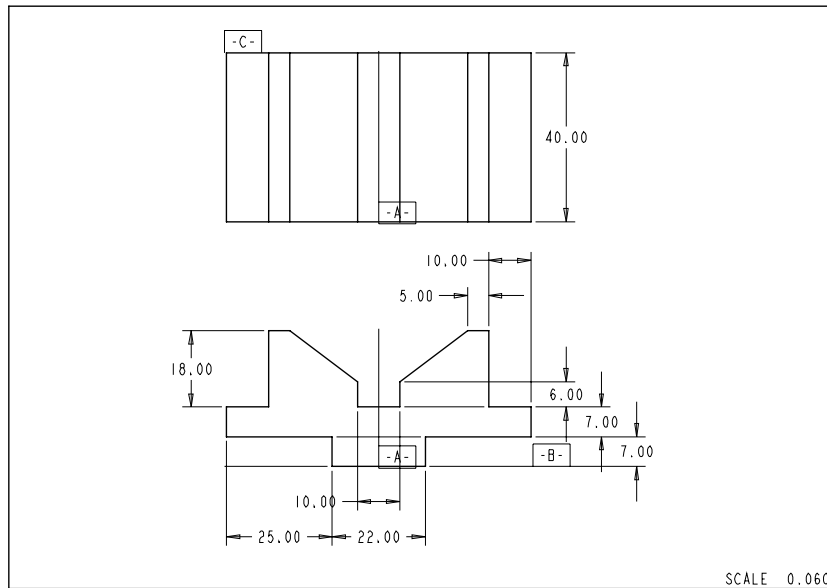

Figure 11-24 Top and the front views of the model with the dimensions and datum planes
5. After cleaning the dimensions, the drawing views should look similar to the one shown in Figure 11-24.